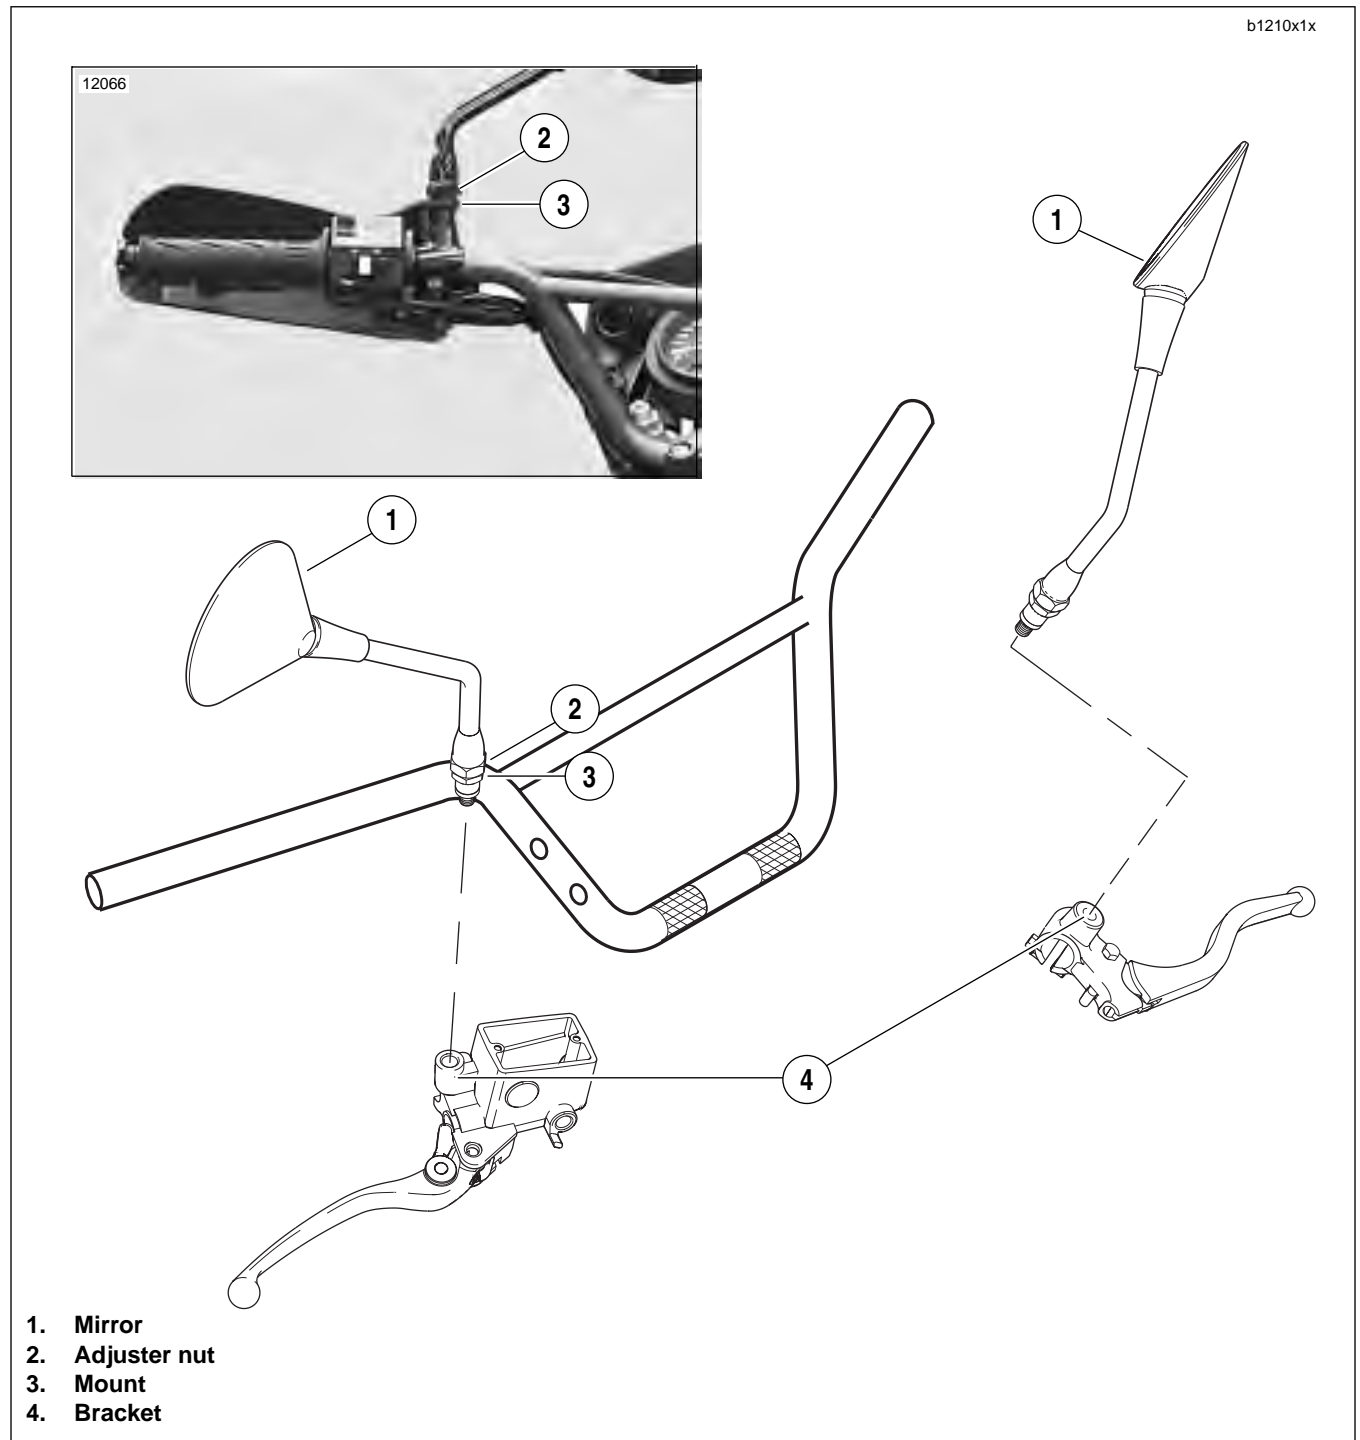

Figure 2-114. Mirrors and Mounting Hardware
1. See Figure 2-114. Loosen adjuster nut (2) and remove mirror (1) from mount (3).
2. Loosen mount (3) and remove from bracket (4).